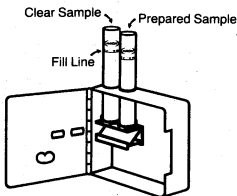

FIGURE 1
3. Place the lengthwise viewing adapter in the comparator as shown in Figure 1.
4. Place the tube containing the prepared water sample into the comparator opening labelled Prepared Sample Position in Figure 1.
5. Fill the other sample tube with untreated water or a reagent blank to the line underlining "Cat. 1730-00". Insert this tube into the comparator opening labelled Clear Sample Position in Figure 1.